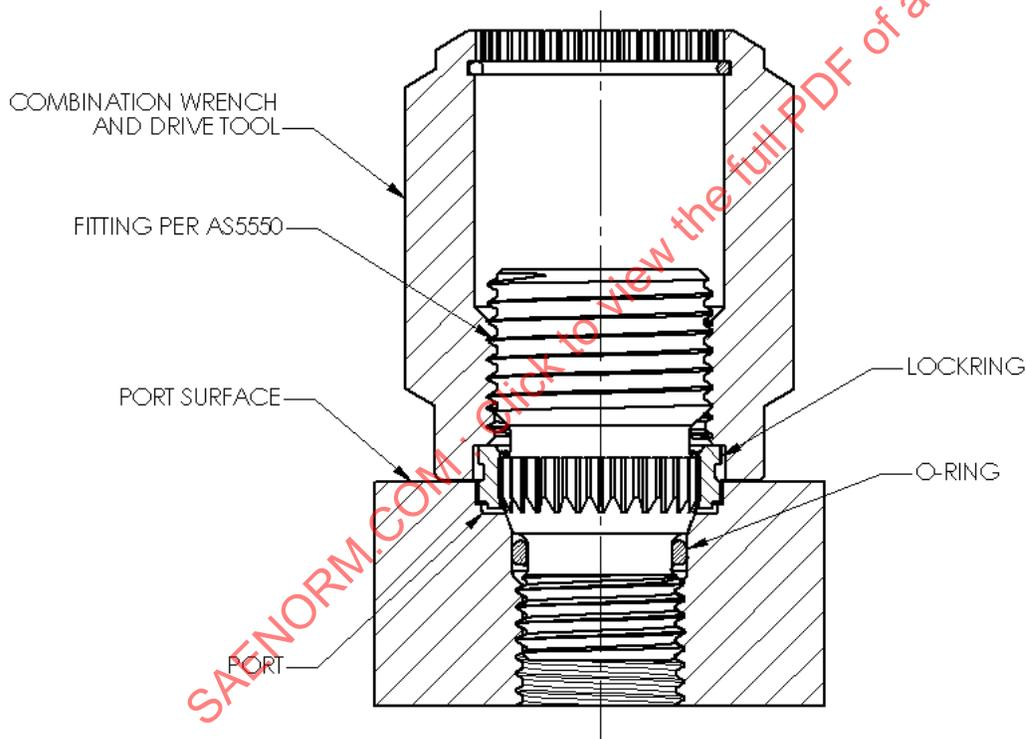

FIGURE 6 - Lockring Installation
6.2.5 While the zinc chromate (or other primer) applied per 6.2.4 is still wet, install the locking by rotating the threaded end of the combination wrench and drive tool clockwise onto the fitting assembly until it touches the locking. Using an open end or socket wrench on the tool, turn the tool in a clockwise direction until it bottoms on the port surface as shown in Figure 6. Visually observe that the tool has bottomed.